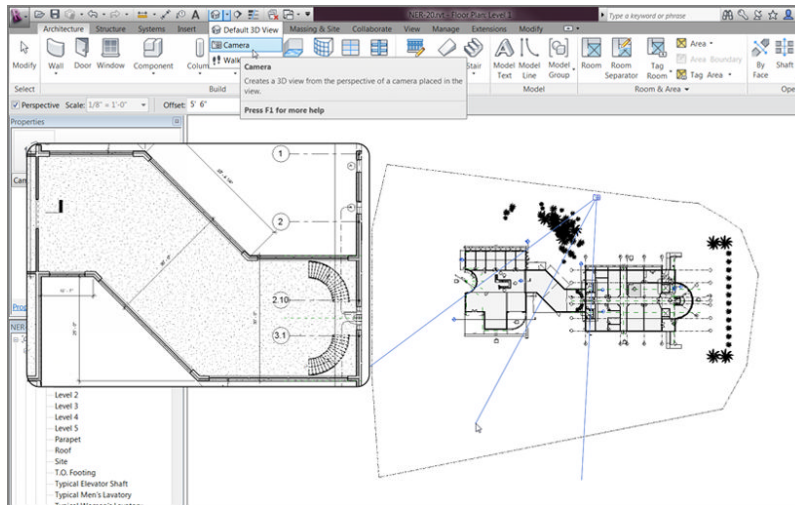

FIGURE 19.1: Add the curtain walls, and create the camera view.
3. Add some curtain walls to the corridors, as shown in Figure 19.1. (Come on, I know you can do it.) These are Level 1 to Level 3 with a -6" (-150mm) offset from Level 3. You can use Curtain Wall Storefront.
5. Create a camera view of the area shown in Figure 19.1.